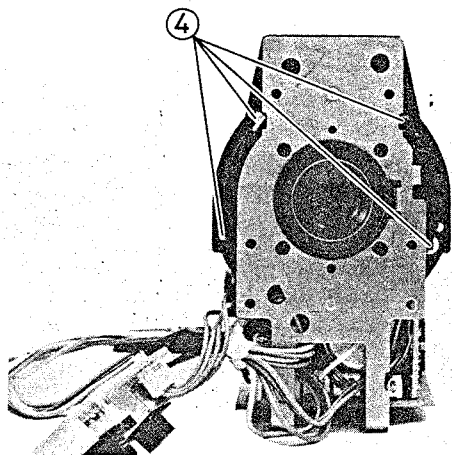

Fig. 2-131 Iris Block Removal
Iris Block Removal (Figs. 2-131, 2-132)
4. Remove four (4) screws holding the relay lens block, and remove it. (See Fig. 2-131)